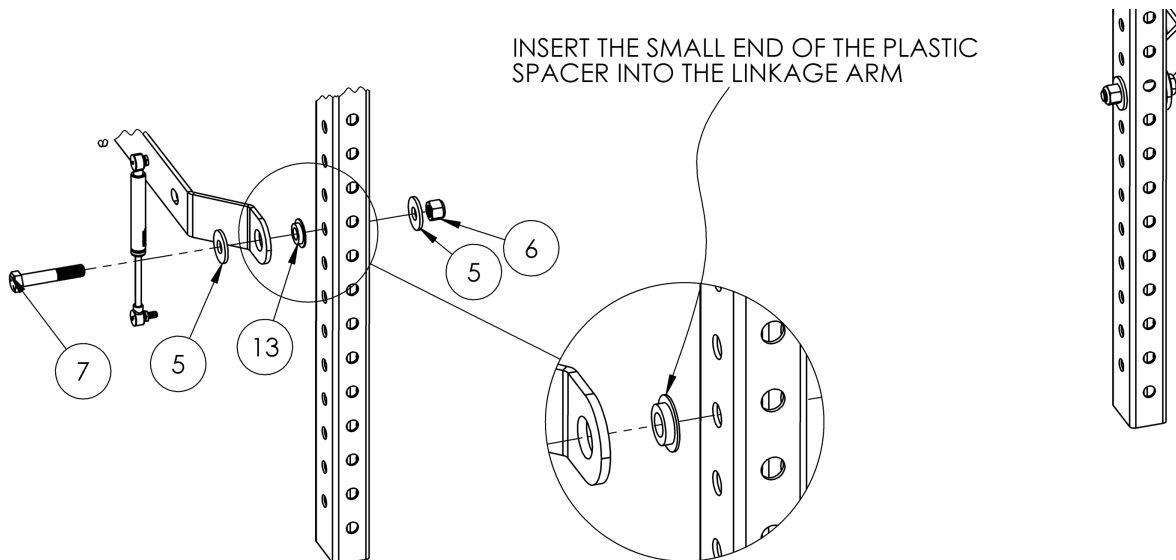

Figure 9: Bolting the Rack to the Lower Linkage Arms
3. Bolt the lower linkage arm on the upright using the 5/8" x 3 1/2" hex bolt (7), two 5/8" flat washers (5), one plastic spacer (13) and one 5/8" locknut (6) (**Figure 9**). Repeat this on the other side.